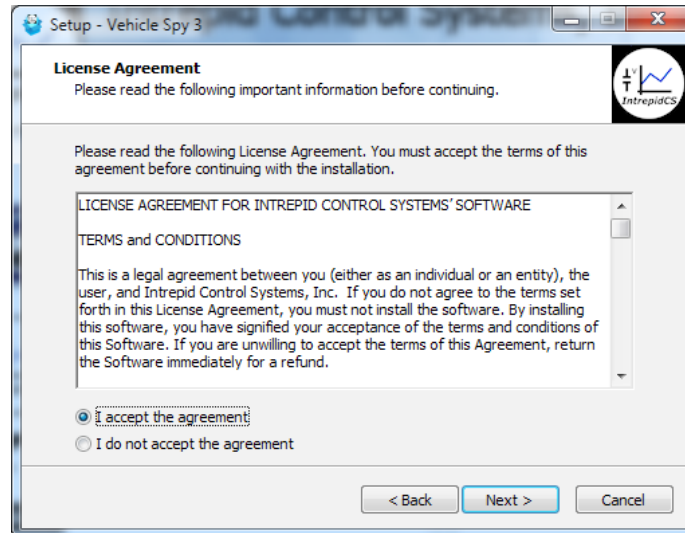

Figure 21: Vehicle Spy 3 License Agreement.
5. **Review and Accept License Agreement:** Review the license agreement, and assuming its terms are acceptable, select *I accept the agreement*, then click  (Figure 21).